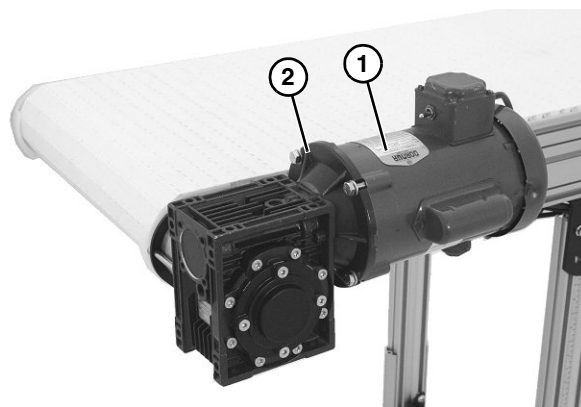

Figure 25
1. Attach the motor (**Figure 25, item 1**) to the gear reducer (**Figure 25, item 2**). (End Drive shown below.)